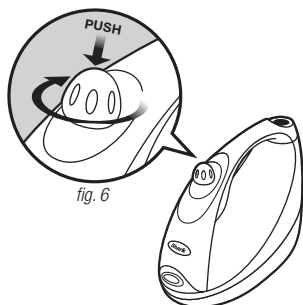

fig. 6
- 2 Hang the garment on the garment hook and begin steaming in an up and down motion. (fig. 6)
- 2 Unscrew the water cap from the inlet, the cap is tethered to the water tank and can not be completely removed. (fig. 6)